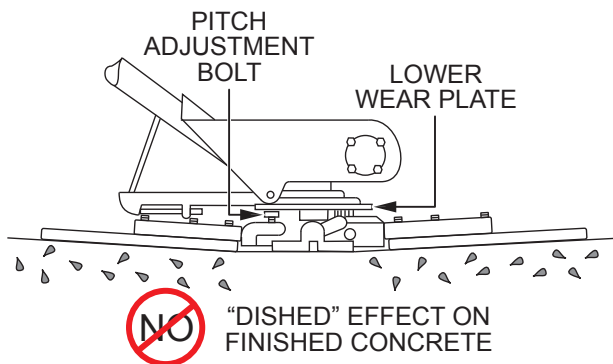

Figure 69. Blades Pitched Flat (Incorrect)
- Figure 69 illustrates incorrect spider plate alignment due to improper adjustment, worn spider bushings, or bent trowel arms.